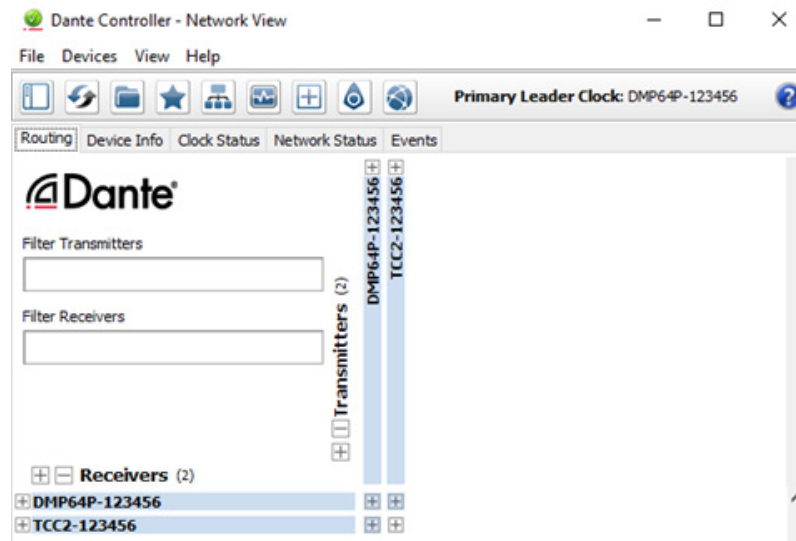

Figure 8. Routing Tab of Network View Screen
2. From the Windows Start Menu select: **All Programs > Audinate > Dante Controller**. The **Dante Controller - Network View** screen opens. Dante Controller auto-discovers Dante devices on the network and advertises itself to allow other Dante-enabled devices to communicate with it. Transmitters connect to receivers using the subscription matrix (see figure 8).